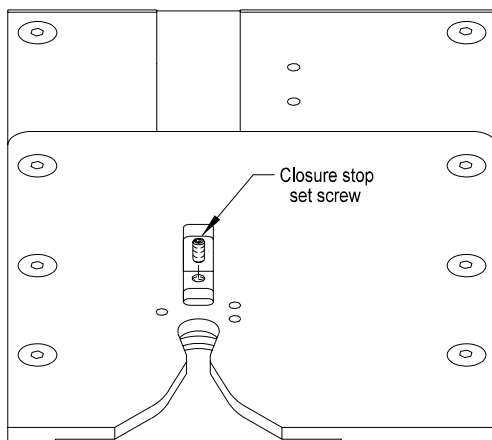

Figure 3.5
2. Locate the top of the set screw (Figure 3.5).